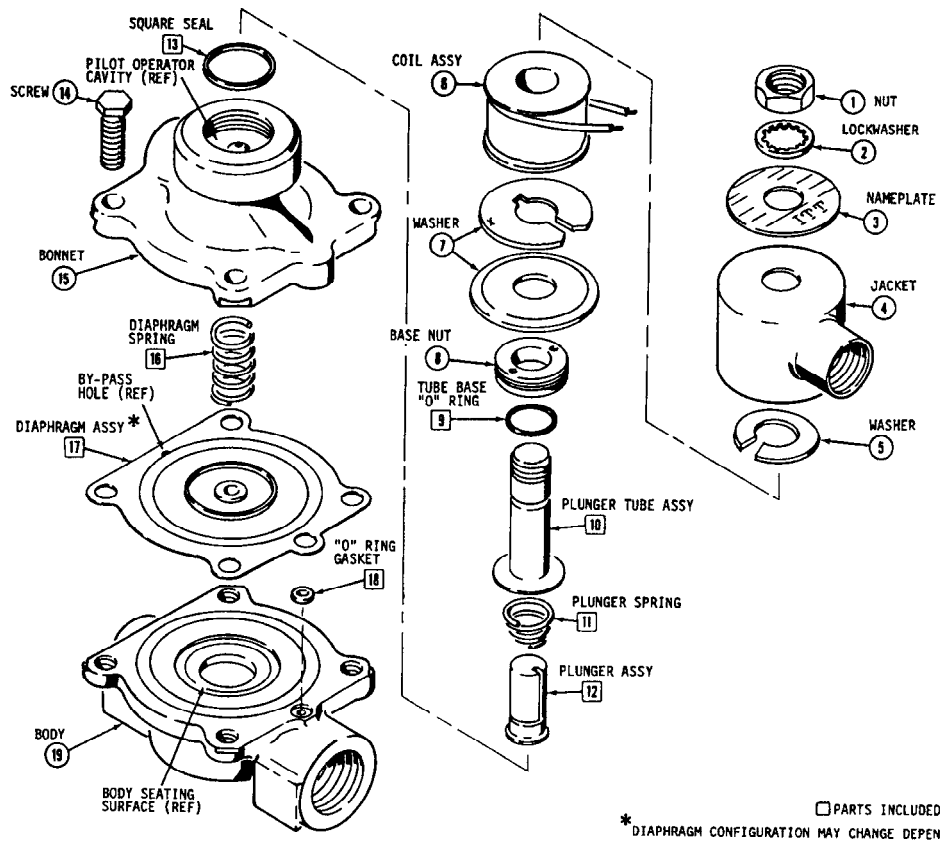
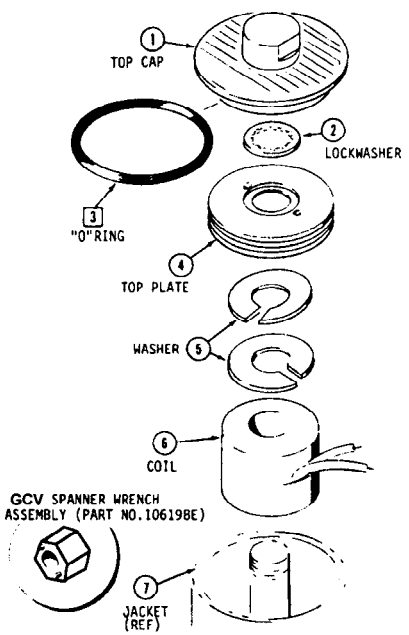

Fig. 3. Typical S211 Valve
Fig. 4. Typical S211 Explosion-proof Operator
5. Wire in accordance with applicable local and national electrical codes. Loosen the hex nut (Fig. 3, No. 1) to rotate the coil jacket (Fig. 3, No. 4). Using a torque wrench, tighten the hex nut to 20-25 inch pound when installation is completed.
Disassembly and Reassembly. (See Fig. 3.)
1. Unscrew the hex nut (1). Remove the lockwasher (2).
2. Lift off the coil jacket (4) with nameplate (3) and coil (6) from the plunger tube assembly (10). Also remove the bottom washers (7).
3. Remove the coil and upper washer (5) from the coil jacket.
4. Use an ITTGC Spanner Nut (106198E) to remove the base nut (8).
5. Remove the tube base "O" ring (9) and remove the plunger tube assembly (10) from the bonnet (15). All parts numbered 9 through 13 on Fig. 3 will be replaced by the new parts in the Universal Kit.
6. Remove the bonnet cap screws (14), and lift the bonnet off of the body (19).
7. Remove the parts numbered 16, 17, and 18 on Fig. 3. These parts will all be replaced by the new parts from the Universal Kit. If necessary, tap the body against your hand or a flat surface to free the "O" ring gasket (18).
8. Place the new "O" ring gasket (18) into its hole in the body (19).
9. Replace the diaphragm assembly (17). The plate on the diaphragm assembly must face away from the body. Be sure that the diaphragm is lined up properly (see CAUTION above Step 8).
10. Replace the diaphragm spring (16) as shown in Fig. 3. Reassemble the bonnet (15) onto the body (see CAUTION above Step 8), and replace and tighten down the bonnet cap screws (14).
12. Install the plunger spring (11) small diameter down onto the plunger assembly (12). Insert the final assembly of (11) and (12) into the plunger tube assembly (10).
13. Place the plunger tube assembly, with the plunger spring and plunger in it, into the bonnet operator cavity (REF.). Place the new tube base "O" ring (9) onto the plunger tube assembly as shown in Fig. 3.
14. Replace the base nut (8) onto the plunger tube (10). **USING A TORQUE WRENCH, TIGHTEN THE BASE NUT INTO THE THREADS ON THE BONNET TO 18 TO 24 LB. IN.**
15. Replace the bottom washers (7) onto the plunger tube. The raised outer edge of the bottom washer which is closest to the bonnet (forms a complete
Standard Model Fig. 3.
Explosion-proof Model Fig. 4.
See Fig. 3 for an exploded view of a typical S211 Model "A", and Fig. 4 for an exploded view of a typical S211 Model "B" Explosion-proof operator assembly.